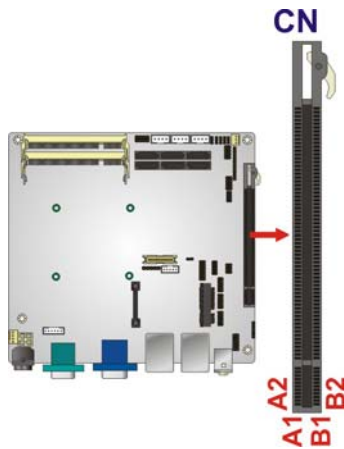

Figure 3-13: PCIe x16 Slot Location
- CN Location:** See **Figure 3-13**